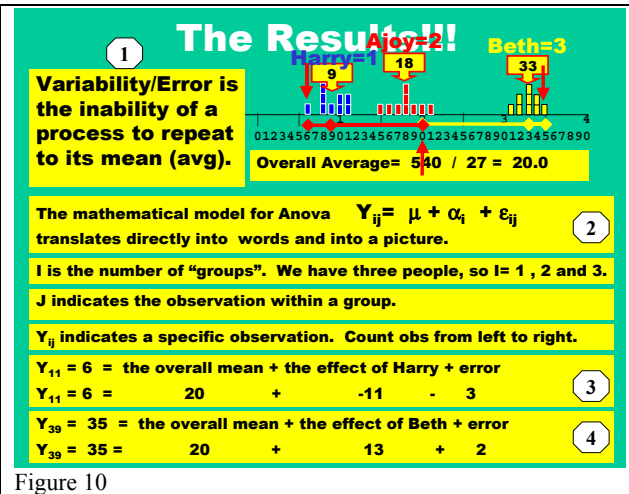

Figure 10
Figure 10 shows the mathematical model for ANOVA [Label (2)], translates the model into a picture (red & yellow lines below the plot) and shows actual numbers [Labels (3) & (4)] associated with the formula. Note that the long red line in Figure 10 is 11 units long and the short red line in Figure 10 is three units long. This is the physical meaning of the numbers in the formula shown in (3).
Figure 10 (1) restates the important concept that error/ variability is the inability of a process to repeat to its mean. The mathematical model for ANOVA (2) builds on that idea. Lets look at a few observations.